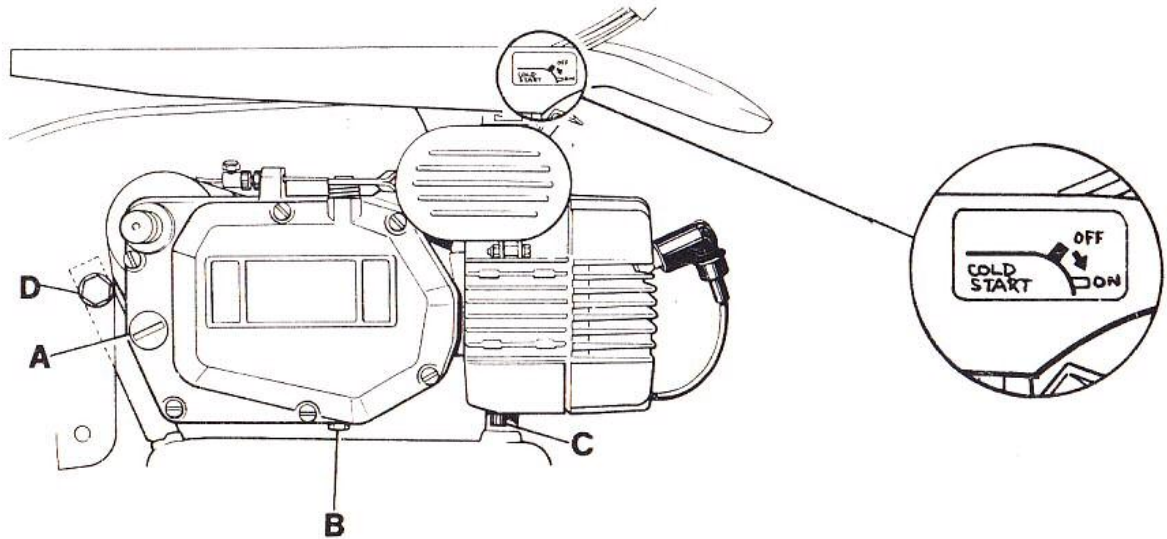

Figure 8
A cold start lever is provided on the carburettor (Fig. 8). To operate move downwards in the direction of the arrow. Pedal start engine (see later instructions). As soon as the engine is running and warmed up sufficiently to run smoothly, the lever must be returned to rest. This is achieved by momentarily opening the throttle fully (turn twistgrip towards rider) when the cold start lever will disengage. Note: if the lever itself is operated by hand damage may occur.
The transmission requires oil as listed on page 20. The oil level plug (A) Fig. 8 serves also as the filler plug. To check the level, remove this plug. If the level is correct, oil should appear at the level hole. If the level is low, this will not happen and oil should be added through the level plug hole, with the moped resting on its stand, until oil just starts to overflow from the hole. Then refit and tighten the plug.